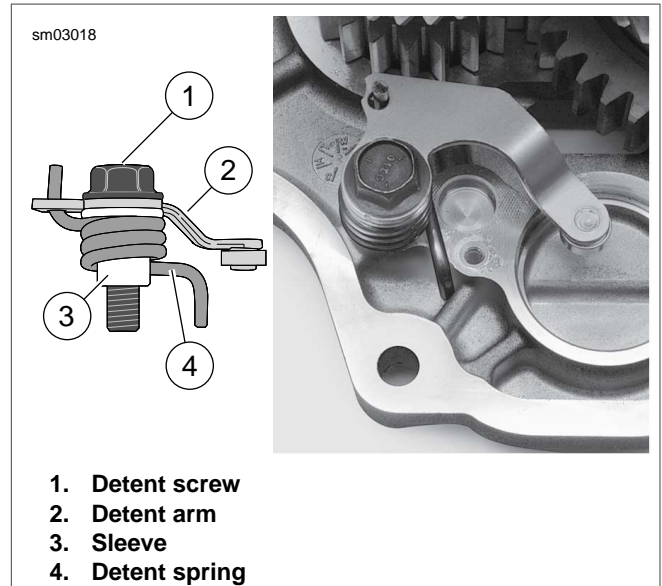

Figure 6-28. Detent Assembly
- a. See Figure 6-28. Clean detent screw mounting hole in transmission side door.